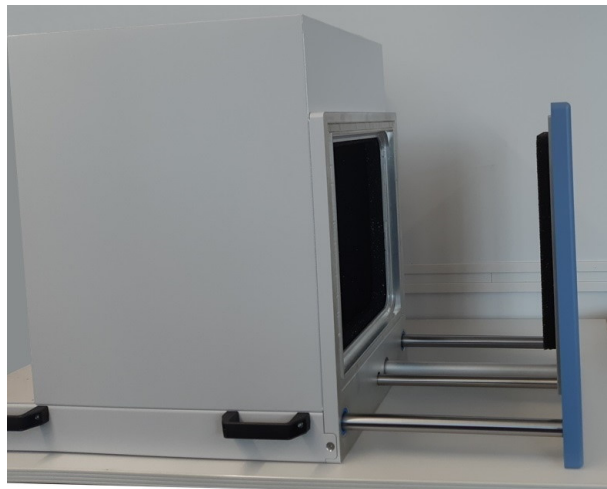

Figure 6-2: Open door completely above table
- Leaves room for the opening door, see Figure 6-2.
- b) The opened door is completely above the table, as shown in Figure 6-2.